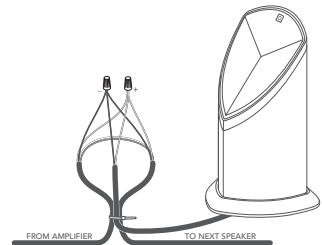

Figure 6
8. Cut the correct two wires for the left or right speaker (see the tables below) and strip 3/4" of insulation on the exposed ends of the burial wires, then strip 3/4" insulation from the ends of the corresponding speaker's pigtail (see Figure 6).
9. Create a loop of approximately 10", and use a wire tie to hold the wire loop and speaker pigtail in place to provide strain relief, as shown in Figure 6.